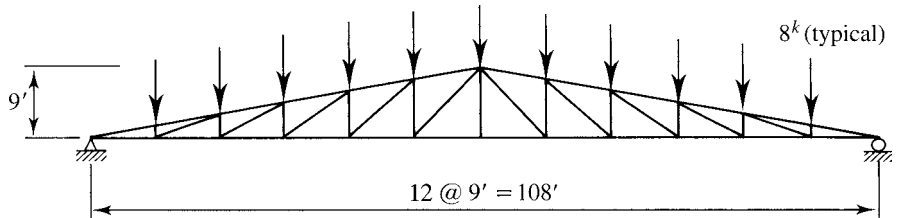

FIGURE P3.8-2
- 3.8-2** Use ASD and select single-angle shapes for the web tension members of the truss loaded as shown in Figure P3.8-2. The loads are service loads. All connections are with longitudinal welds. Use A36 steel and an estimated shear lag factor, U , of 0.85.